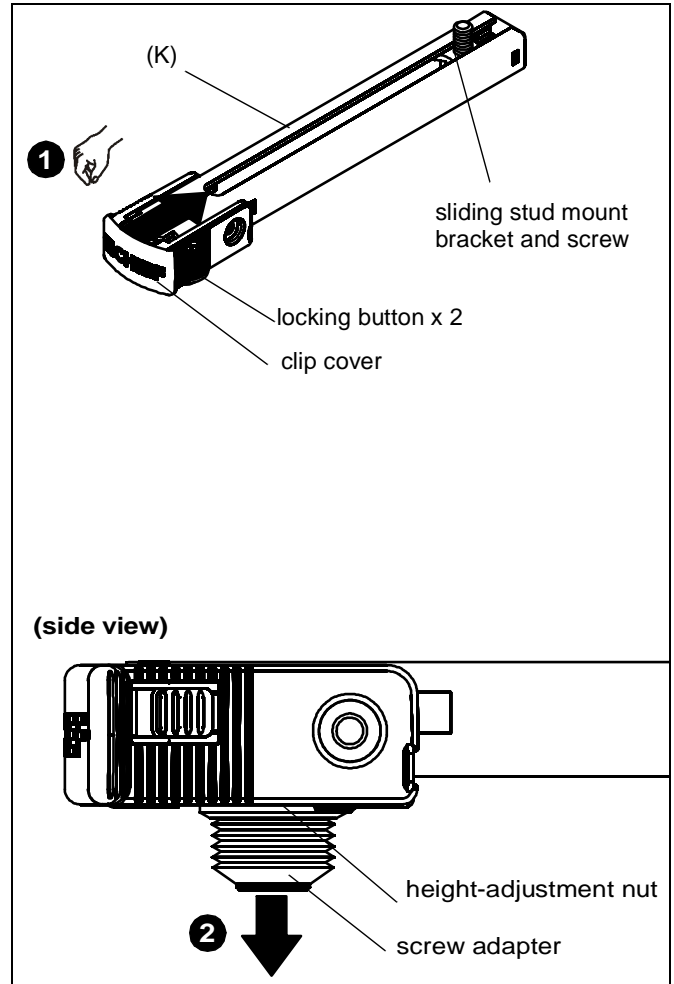

Figure 13
1. Press locking buttons on SLMU leg (K) firmly and simultaneously push clip cover toward enclosed sliding stud mount bracket and screw. (See Figure 13)
2. Screw adapter and attached height-adjustment nut will be released. Set aside for later use. (See Figure 13)